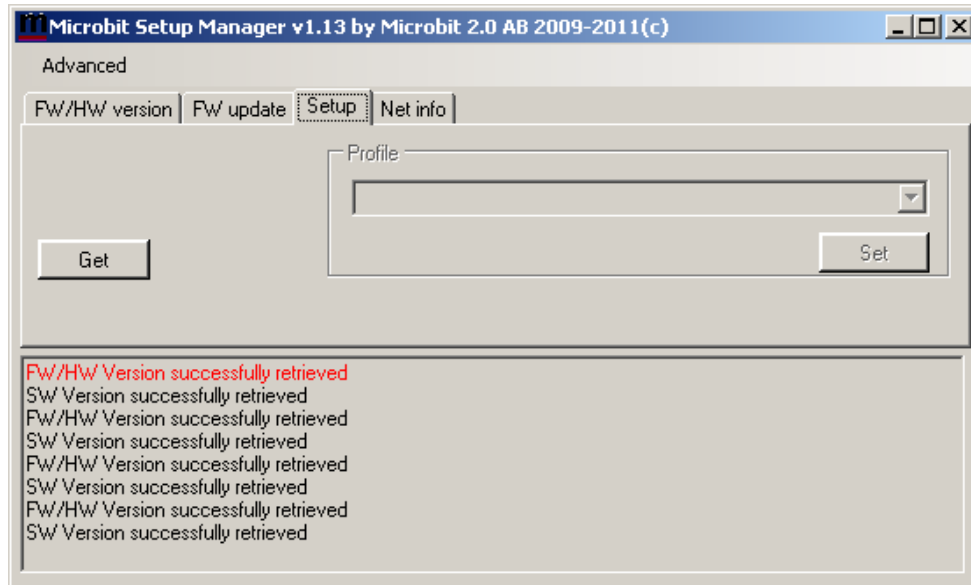

Figure 6
- Click on the Setup tab to open the window shown in Figure 6.